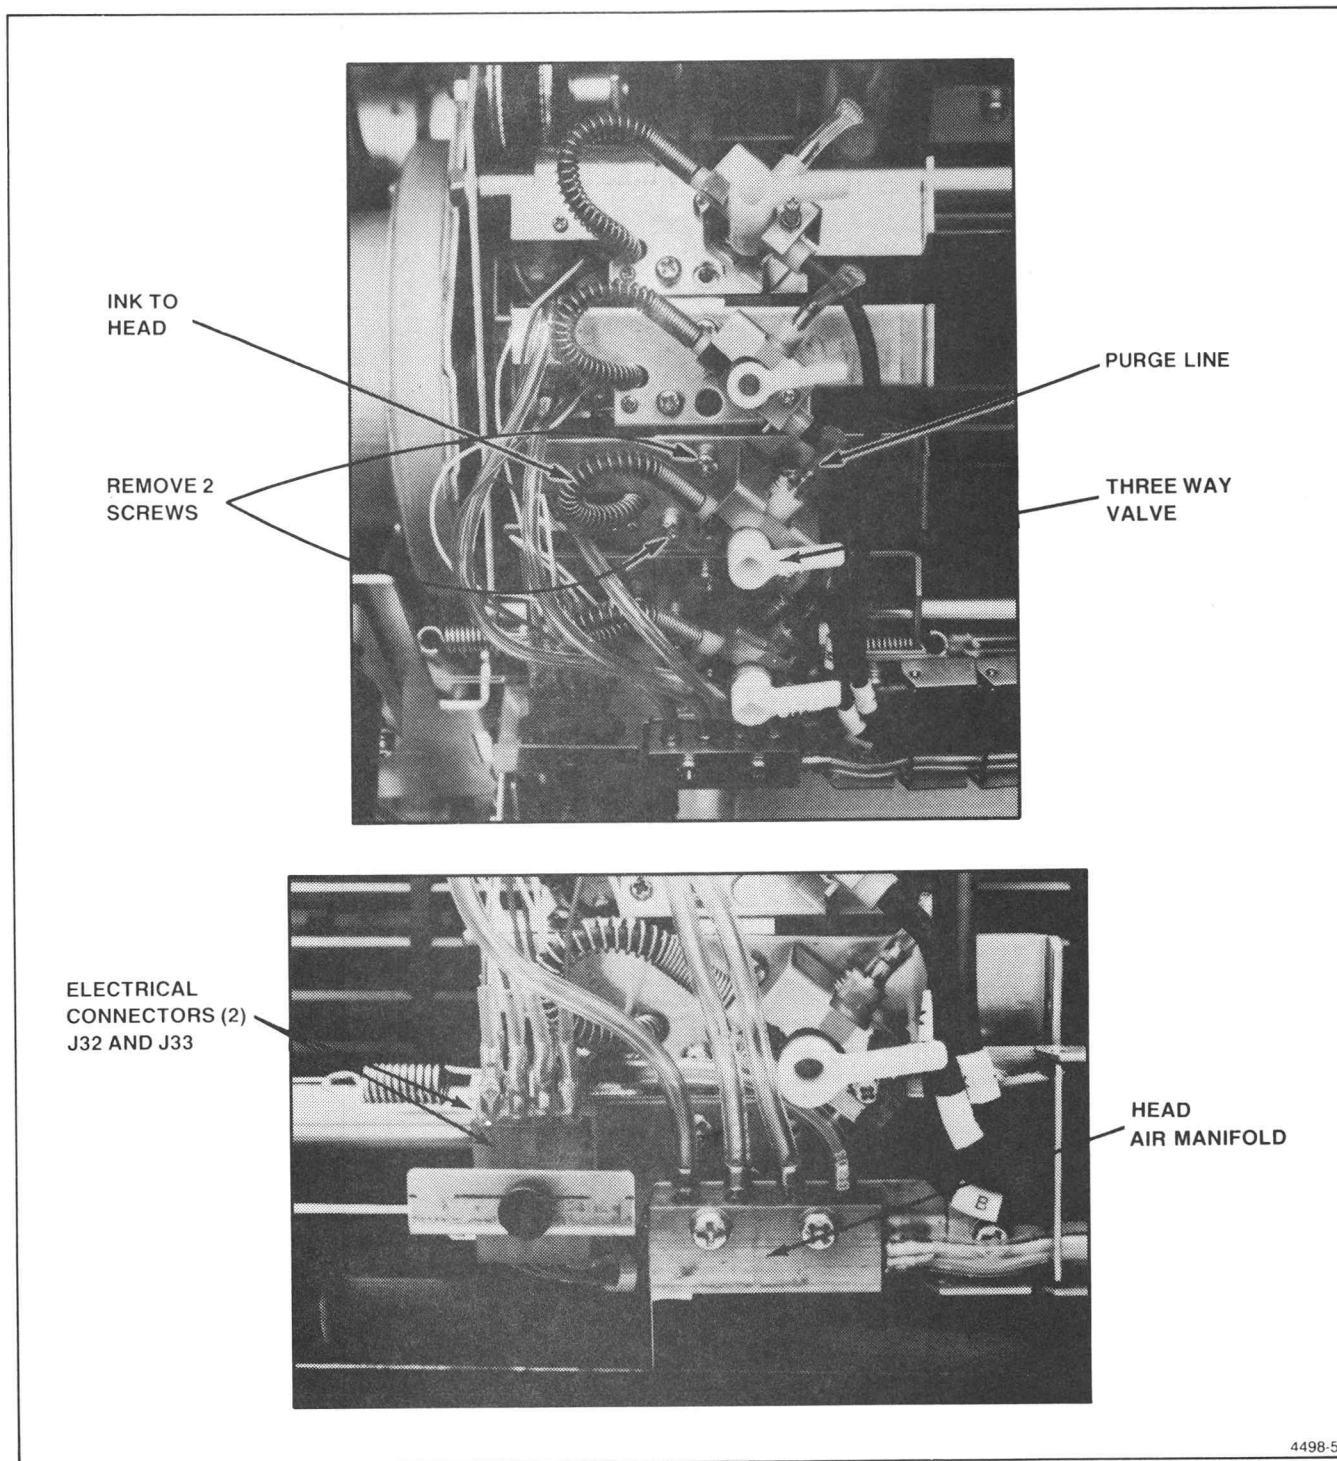

Figure 7-11a. Ink-jet Head Removal. (Yellow, Cyan, and Magenta).
4. Disconnect the electrical wires to the head at the carriage connectors (J32 & J33). There are four red wires and four white wires. See Figure 7-11a.